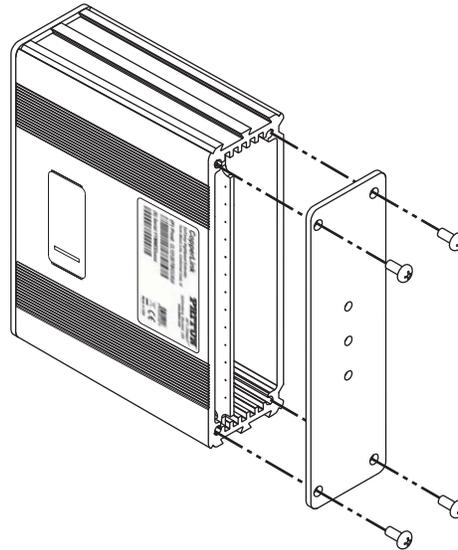

Figure 3. Removing the rear panel
1. Using a cross-tip screwdriver, remove the four screws from the rear panel of the CL1200E as shown in figure 3 on page 18.
1. Using a cross-tip screwdriver, remove the four screws from the rear panel of the CL1200E as shown in \(figure 3 on page 18\).
- Using a cross-tip screwdriver, remove the four screws from the rear panel of the CL1200E as shown in figure 3 on page 18).